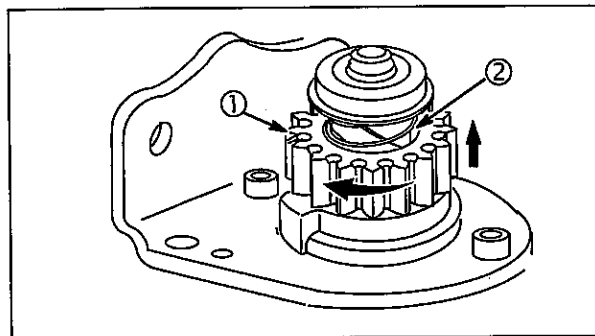
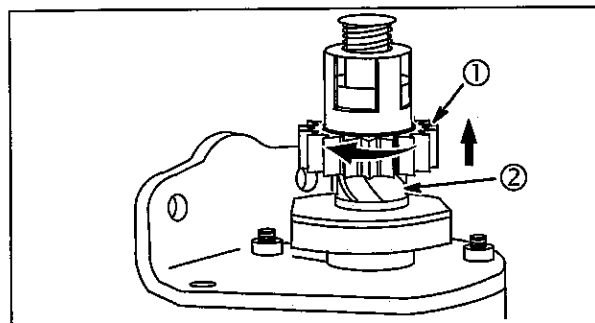

Fig. 4
Fig. 5
The nylon pinion starter drives use either the C-ring retainer, **Fig. 4** or the roll pin retainer, **Fig. 5**. The steel pinion starter drive is shown in **Fig. 6**. When the starter motor is activated, the pinion gear should engage the flywheel ring gear and crank the engine. If it does not, inspect the helix and the pinion gear for freedom of operation.
Inspect the pinion gear (1) for damaged teeth. The gear must move freely on helix (2), **Figs. 4, 5 or 6**.